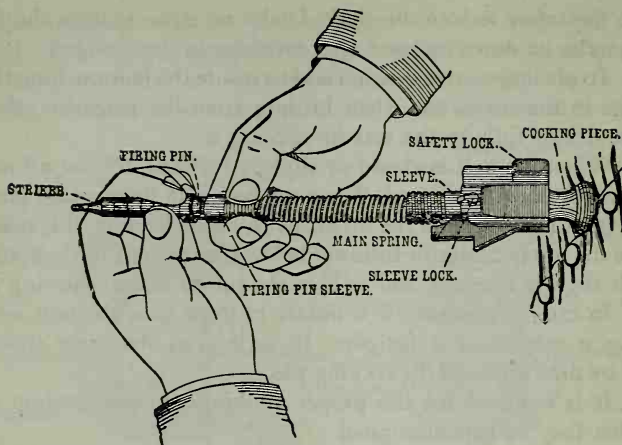

FIG. 42-3—Firing pin and parts.
*To dismount bolt mechanism.*—(1) Place the cut-off at the center notch; cock the arm and turn the safety lock to a vertical position, raise the bolt handle, and draw out the bolt.
(2) Hold bolt in left hand, press sleeve lock in with thumb of right hand to unlock sleeve from bolt, and unscrew by turning to the left.
(3) Hold sleeve between forefinger and thumb of the left hand, draw cocking piece back with middle finger and thumb of right hand, turn safety lock down to the left with the forefinger of the right hand to allow the cocking piece to move forward in sleeve, thus partially relieving the tension of mainspring. With the cocking piece against the breast, draw back the firing-pin sleeve with the forefinger and thumb of right hand and hold it in this position while removing the striker with the left hand. Remove firing-pin sleeve and mainspring; pull firing pin out of sleeve; turn safety lock thumb piece to the right on sleeve and draw it to the rear through the groove made in sleeve for this purpose. Turn the extractor to the right, forcing its tongue out of its groove in the front of the bolt, and force the extractor forward and off the bolt (see Fig. 42-3).
*To assemble bolt mechanism.*—(1) Grasp with the left hand the rear of the bolt, handle up, and turn the extractor collar with the thumb and forefinger of the right hand until its lug is on the line with the safety